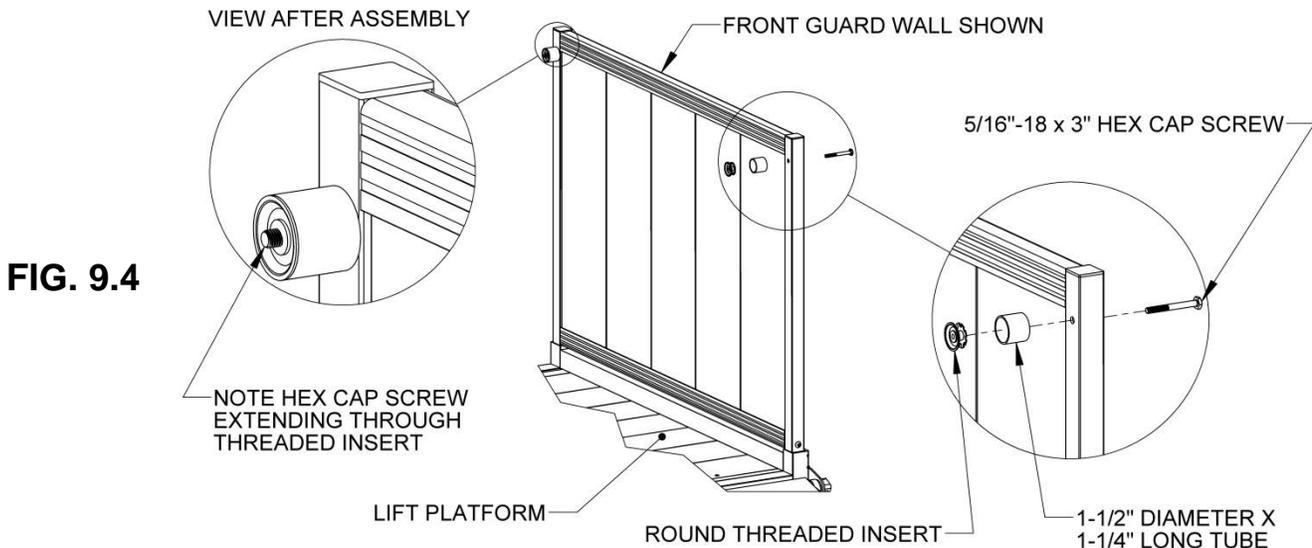

FIG. 9.4
3. Hold one $1\frac{1}{2}$ " diameter x $1\frac{1}{4}$ " long tube with the threaded insert to the inside of the guard wall (the tube will be oriented toward the guard wall post and the insert will be oriented toward the other guard wall). Install a $\frac{5}{16}$ "-18 x 3" long hex cap screw through the hole you previously drilled and into the threaded insert and tighten securely. Refer to FIG. 9.4 for the correct orientation. Repeat for the other guard wall post.
5. Install the elbow halves with the threaded holes onto the portion of the 5/16"-18 x 3" long hex cap screw which extends past the threaded inserts (shown in FIG. 9.4) and tighten securely. After tightening, the rounded side of the elbow halves should be on the bottom facing the platform. It may be necessary to loosen the hex cap screws holding the round tubes with the threaded inserts and rotate in one direction or the other then re-tighten to get the elbows to end up in the correct orientation when fully secured (FIG. 9.6).